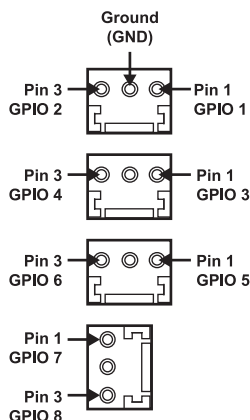

Figure 2.6 GPI Connections — 8320AR-033
- Refer to **Figure 2.6** for GPI/Tally configuration on the rear modules.
- Refer to **Figure 2.6** for GPI configuration on the rear module.